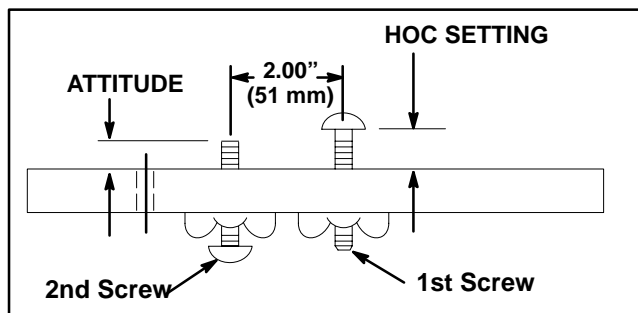

Figure 25
1. Using a two-screw gauge bar, Toro part no. 98-1852, set first screw to desired Height-of-Cut. This setting is from the bar face to the underside of the screw head (Fig. 25).